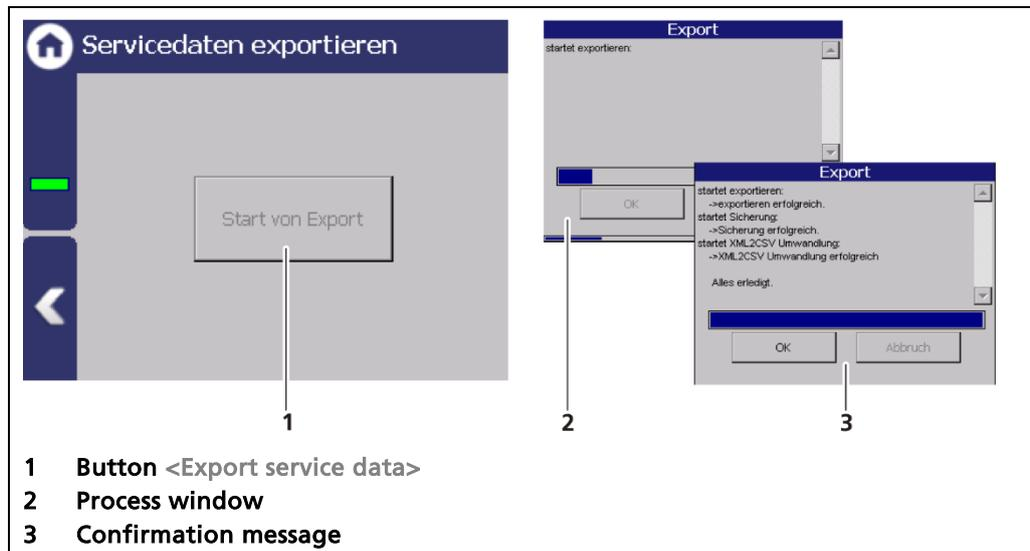

Fig. 122 Export Service Data
2. The USB storage is recognised by the system after a few seconds and the button <Service data> (Fig. 122, item 1) can be clicked.
3. Click on the button <Export service data> (Fig. 122, item 1).
- ▶ The process window is displayed and the export of service data will be carried out (Fig. 122, item 2).
- ▶ After successful export a confirmation message (Fig. 122, item 3) is displayed